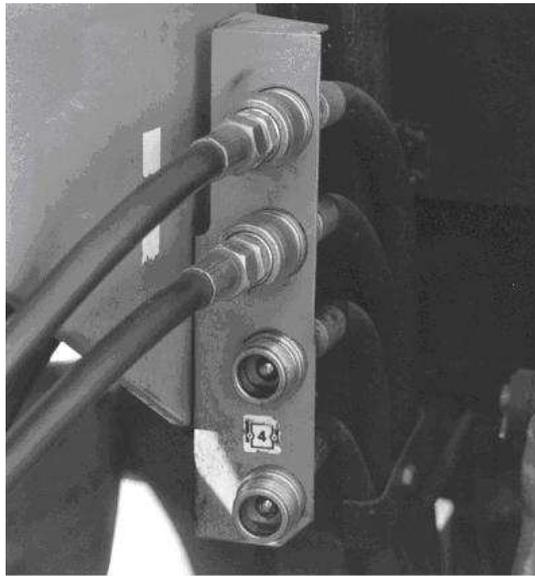

Fig. 29. Connection of the hydraulic hoses to the tractor
- Mount quick-coupling plugs of the wrapping machine hydraulic hoses to valve sockets of the tractor hydraulic system (see **Fig. 29**)